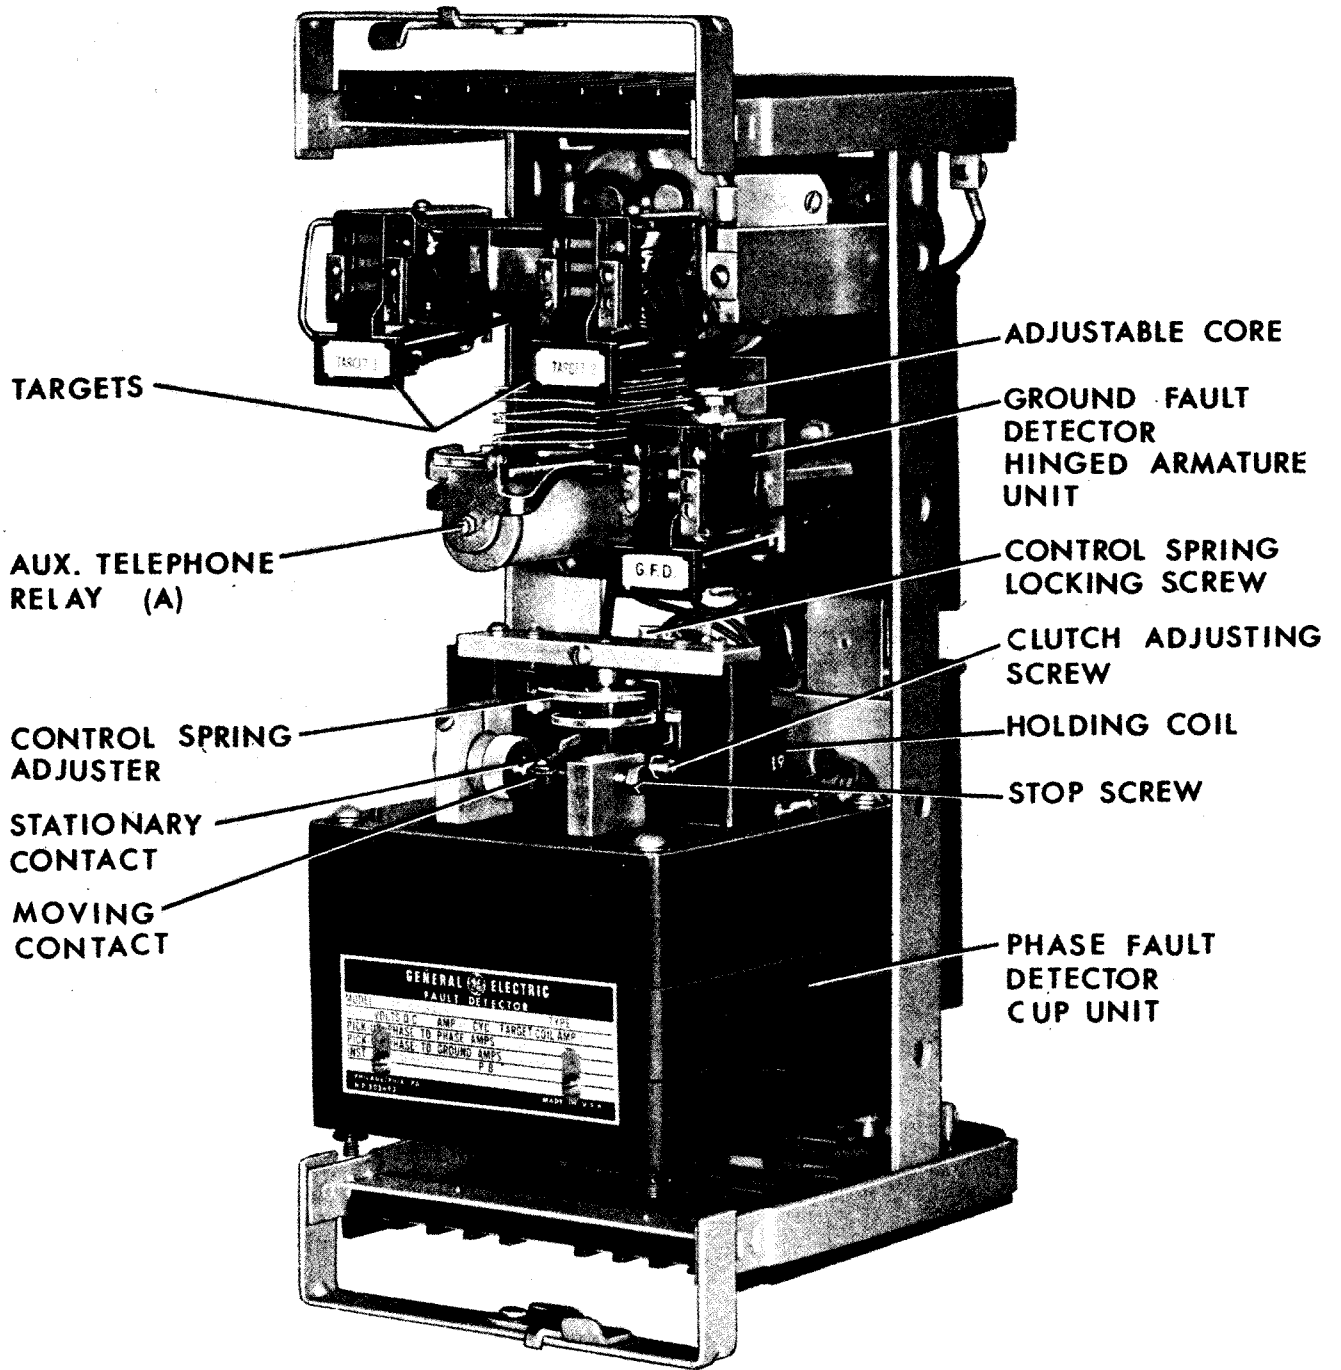

Figure 1 (8035502) Type-CHC Relay Removed from Drawout Case (Front View)
- Figure 1 (8035502) Type-CHC Relay Removed from Drawout Case (Front View)